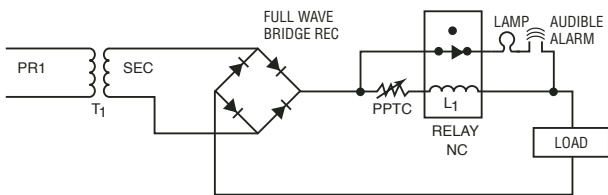

Figure 2
2. The addition of an audible signaling device is possible in this application as well. The voltage drop across the lamp and audible signal will decrease the amount of power to the load, making the circuit more robust. The light and signaling devices are placed in series. They are then placed in parallel with the PPTC and normally closed relay coil. This completed circuit is placed in series between the load and power supply. (See Figure 2.) Typically, a MULTIFUSE PPTC acts as a conductor, with little voltage drop compared to that of the lamp and signaling device. The signaling device can be a standard off-the-shelf buzzer or a horn and lamp in the above circuit.